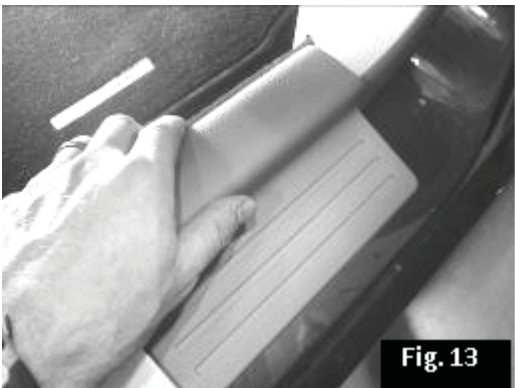

Fig. 13
18. Remove the sill plate along the bottom of the passenger's side door opening. Fig. 13